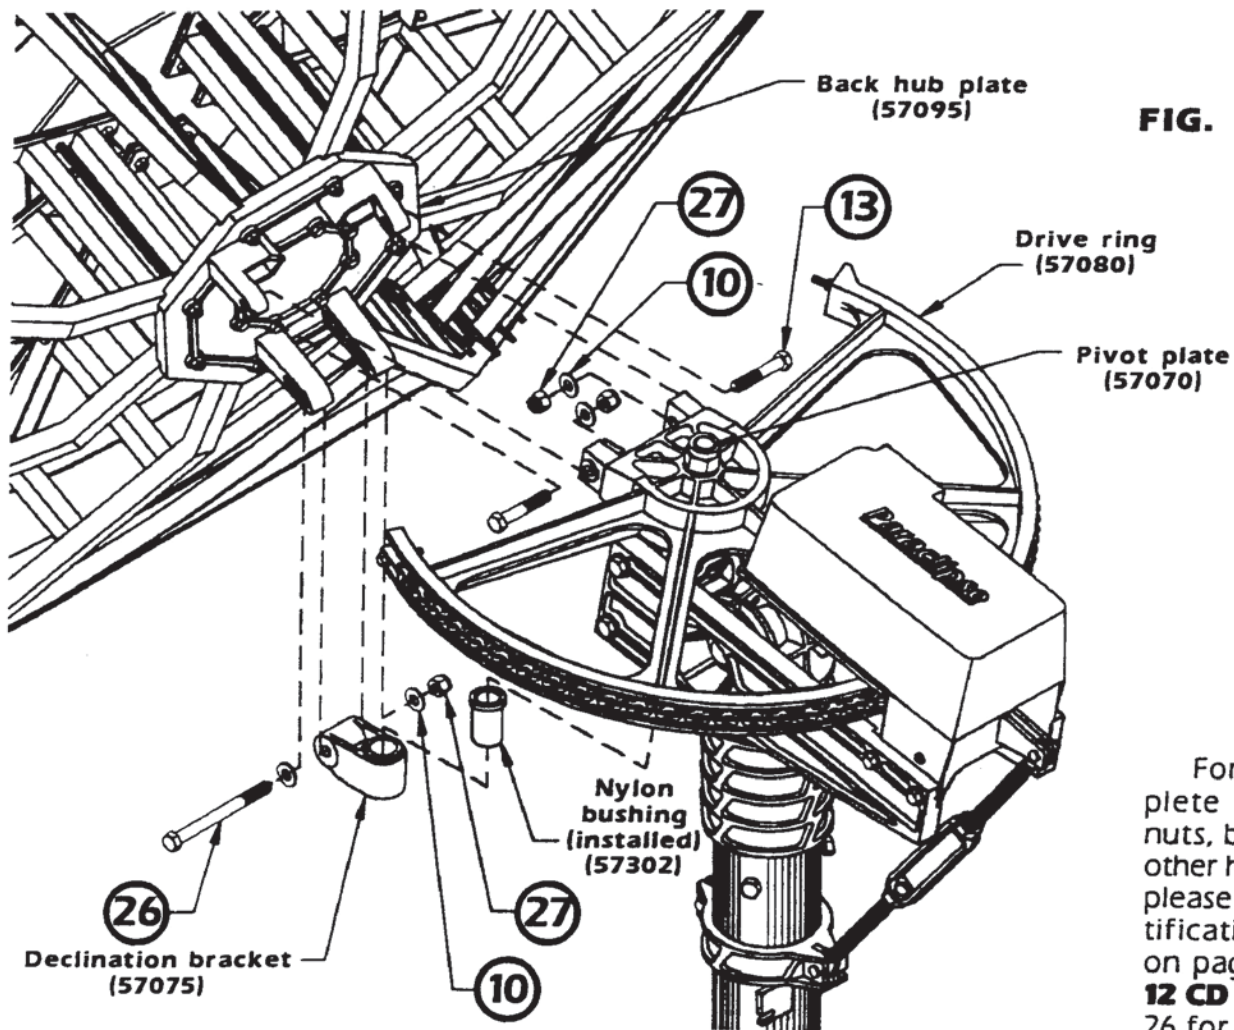

FIG. 25
1. Lift the assembled reflector and attach its back hub plate to the drive ring using two $\frac{1}{2}$ " x $2\frac{3}{4}$ " bolts, two $\frac{1}{2}$ " flatwashers, and two $\frac{1}{2}$ " nyloc nuts. Do not tighten. (See Fig. 25)
2. Slide the declination bracket onto the shaft on the bottom of the pivot plate, making sure that the side with the nylon bushing slides up the shaft first. (See Fig. 25)
3. Attach the back hub plate to the declination bracket using one $\frac{1}{2}$ " x $5\frac{1}{2}$ " bolt, two $\frac{1}{2}$ " flatwashers, and one $\frac{1}{2}$ " nyloc nut. Tighten all reflector to drive ring and declination hardware without overtightening. (See Fig. 25)